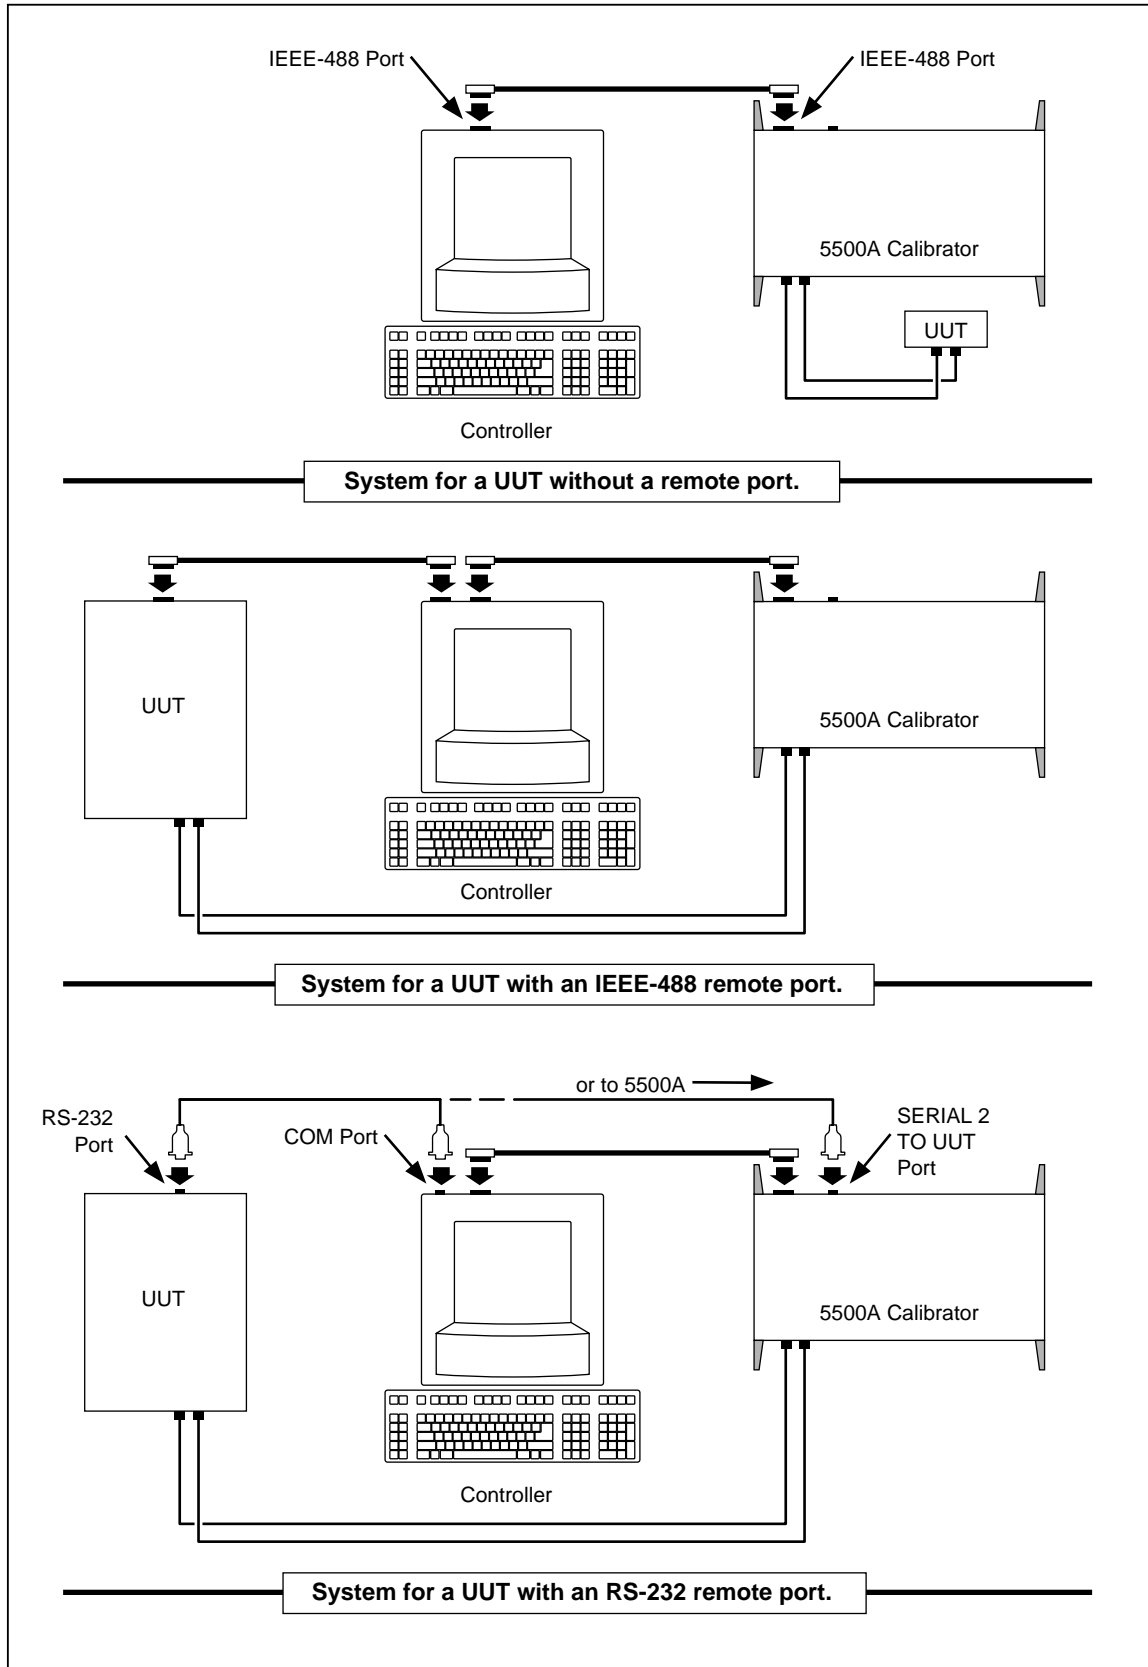

Figure 5-1. Typical IEEE-488 Remote Control Connections
**IEEE-488** The IEEE-488 parallel port is usually used in larger control and calibration systems. An IEEE-488 system is more costly to set up, but has the ability to serve multiple 5500A Calibrators and multiple UUTs. Also, parallel system throughput is faster than serial system throughput. The controller in an IEEE-488 system is typically a MS-DOS compatible personal computer (PC) equipped with one or more IEEE-488 ports. You can write your own computer programs for system operation using the command set, or you can purchase optional Fluke calibration software MET/CAL or 5500A/CAL, and property management software MET/TRACK. Typical IEEE-488 configurations are shown in Figure 5-1. The configuration showing the PC with two IEEE-488 ports is used with MET/CAL, which prefers UUTs on a separate IEEE-488 port. You can also “piggy-back” the connectors on a single IEEE-488 port.
The SERIAL 2 TO UUT serial data port connects a UUT to a PC or terminal via the 5500A Calibrator (Figures 5-1 and 5-2). This “pass-through” configuration eliminates the requirement for two COM ports at the PC or Terminal. The UUT\_\* commands (see Chapter 6) handle the UUT port data flow.